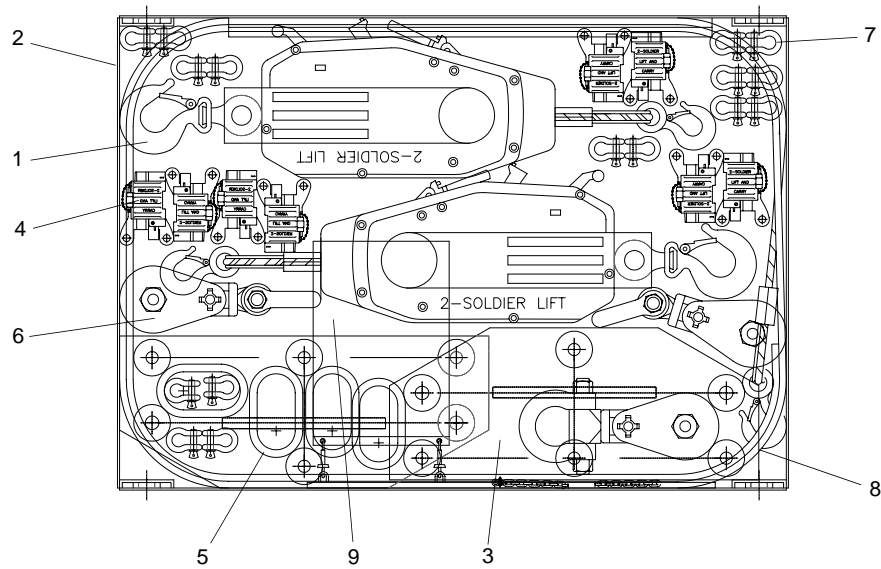

Figure 18. Bottom Drawer Storage Arrangement
- i. Stow two griphoists (figure 18, item 1) in bottom drawer (figure 18, item 2).
- j. Stow four flounder plates (figure 18, item 3) in bottom drawer (figure 18, item 2).
- k. Stow eight carpenter stops (figure 18, item 4) in bottom drawer (figure 18, item 2).
- l. Stow four master links (figure 18, item 5) in bottom drawer (figure 18, item 2).
- m. Stow three snatch blocks (figure 18, item 6) in bottom drawer (figure 18, item 2).
- n. Stow 16 1/2 in. shackles (figure 18, item 7) in bottom drawer (figure 18, item 2).
- o. Stow two griphoist cable assemblies (figure 18, item 8) in bottom drawer (figure 18, item 2).
- p. Stow four anchor pendant assemblies (figure 18, item 9) in bottom drawer (figure 18, item 2)